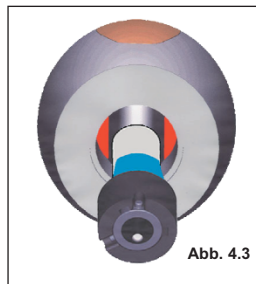

Abb. 4.3
Feed the new lamp through the connection socket from the side with the holding grooves. Rotate the bulb in such a way that both locking pins of the bulb holder sink into the retaining slots of the frame. Make sure that you do not touch the glass of the bulb with your bare fingers, or else wipe this with a clean cloth. Pick up the turn indicator housing and hold this with the thread opening facing upward. Rotate the frame and the bulb in such a way that the two orientation bars (marked in blue in Figure 4.3) of the frame are visible between the crescent shaped contact surfaces of the guiding channels in the turn indicator housing (marked in red in the Figure). Let the frame and bulb slide downward into the tapped hole. Take hold of the multi-functional part (4) and screw in the turn indicator housing carefully with your hand. If the multi-functional part cannot be screwed in, the frame is not correctly aligned in the turn indicator housing. In this case, align the frame and bulb again. Turn the indicator housing onto the bracket as described above. Position the 8 mm open spanner onto the corresponding flattened surfaces on the bracket and screw the indicator on tight. Now install the indicator as described in Section 3.